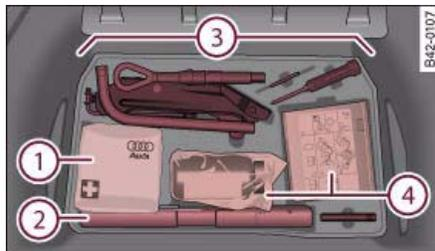

Fig. 123 Breakdown kit in the luggage compartment
- Take the **tyre sealant can** and the **electric compressor** out of the holder under the floor panel ⇒ *page 178*, fig. 123.